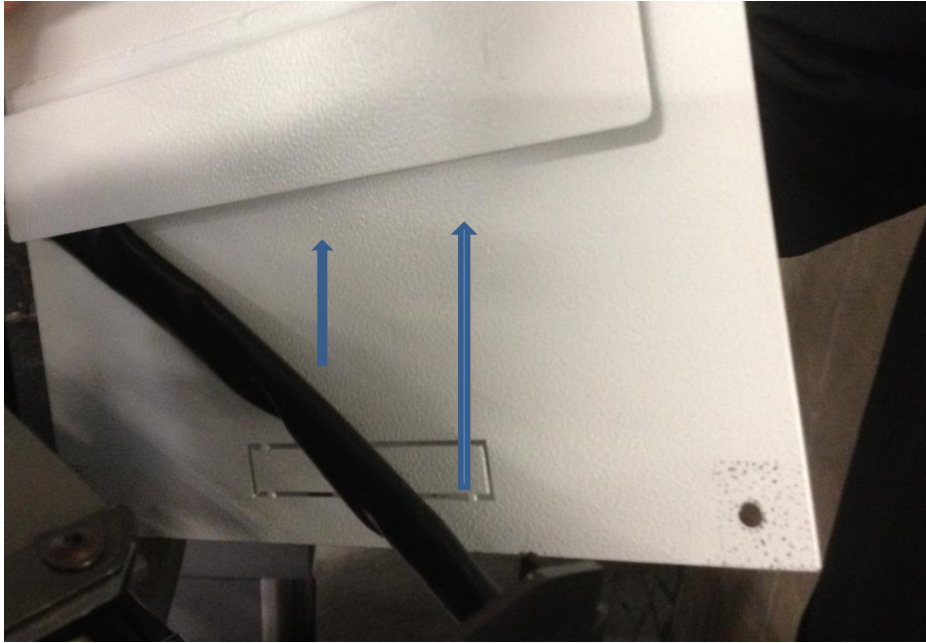

Fig 7
9. Remove the three screws **A)**, **B)** and **C)** and take off the motor unit from its support as shown in fig.7
9. Loosen the two headless screws **A)** and **B)** , removing the motor unit gear as shown in fig. 7